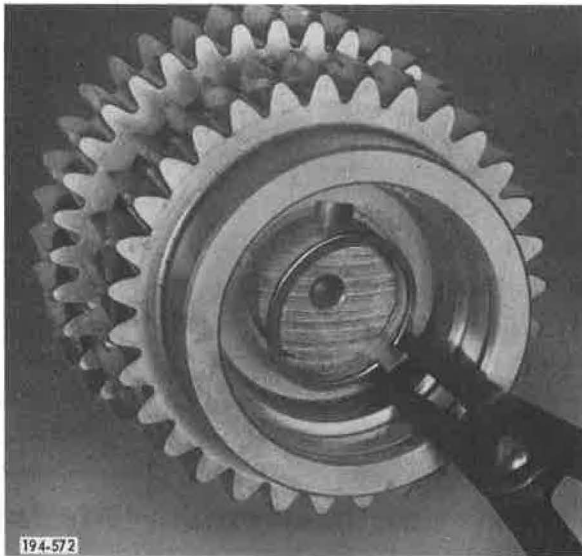

Figure 5-761. Removing Snap Ring
3. Remove rear countershaft gear retaining snap ring, using snap ring pliers J-6435 or equivalent. See Figure 5-761.